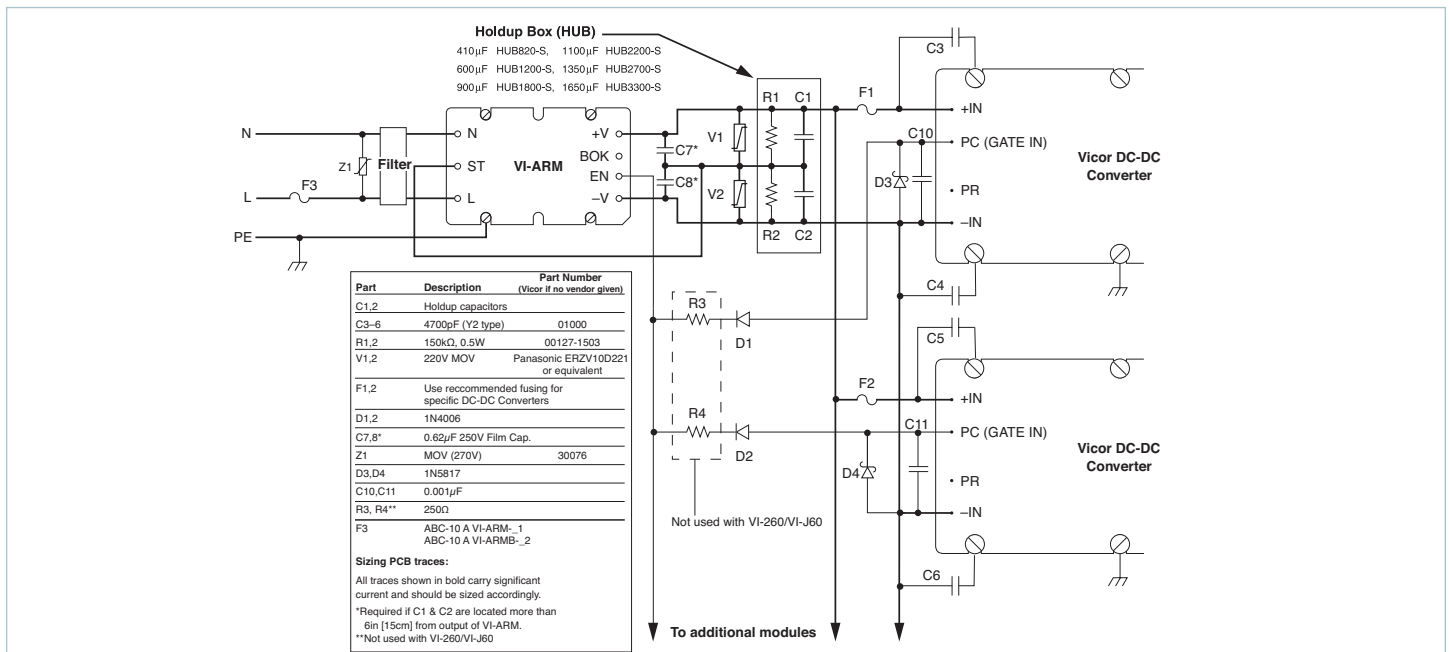

Figure 7.3 — Typical ARM application
**Strap (ST) Pin:** In addition to input and output power pin connections, it is necessary to connect the Strap pin to the junction of the series hold-up capacitors (C1, C2, Figure 7.3) for proper (autoranging) operation. Varistors across the capacitors provide input transient protection. The bleeder resistors (R1, R2, Figure 7.3) discharge the hold-up capacitors when power is switched off.
It should be noted that the series combination (C1, C2, Figure 7.3) requires each capacitor to be twice the calculated value, but the required voltage rating is reduced to 200V.